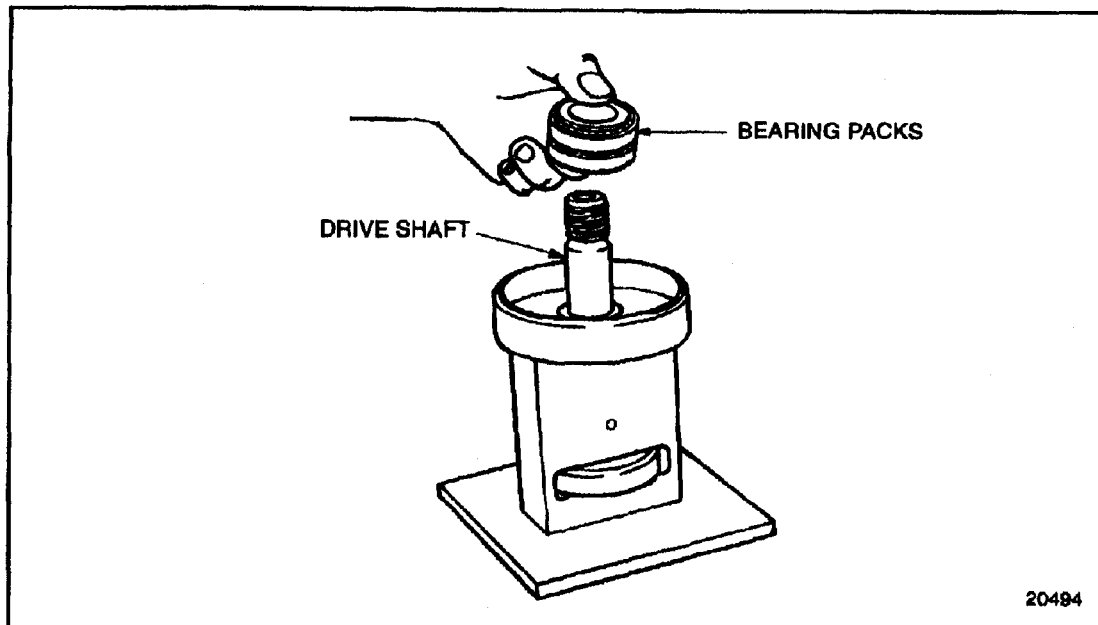

Figure 4-46 Bearing Placement (FM)
4. Install the assembled bearing packs to the drive shaft. See Figure 4-46.